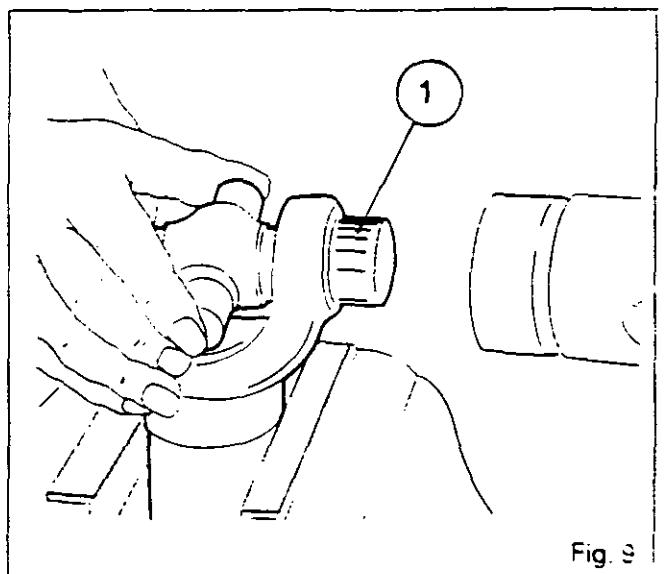

Fig. 9
95. Drive the sleeve (1) into the yoke deep enough to permit insertion of the circlip (Fig. 9).